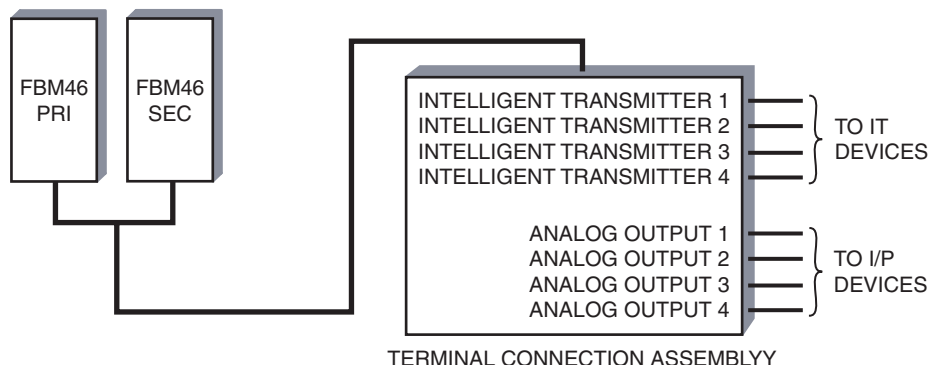

Figure 1. FBM46 Redundant Configuration to Single IT and Single I/P
The Redundant Dual Baud Rate Interface to Intelligent Transmitters and Redundant Analog Outputs consists of a pair of Fieldbus Modules that contain four redundant, individual Intelligent Transmitter (IT) interface channels and four redundant, 0 to 20 mA dc analog output channels. The pair of modules combines to provide redundancy from the Fieldbus Module level to one common connection block. Field I/O is also wired to the connection block (Figure 1).